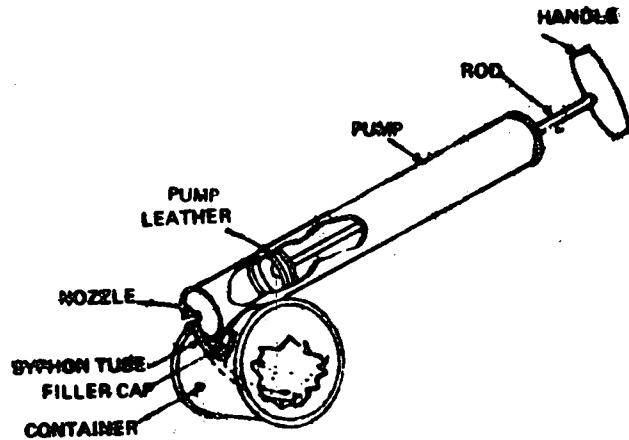

Fig. 1
*Intermittent sprayers.* They deliver the product with each stroke of the piston (see Figure 1).